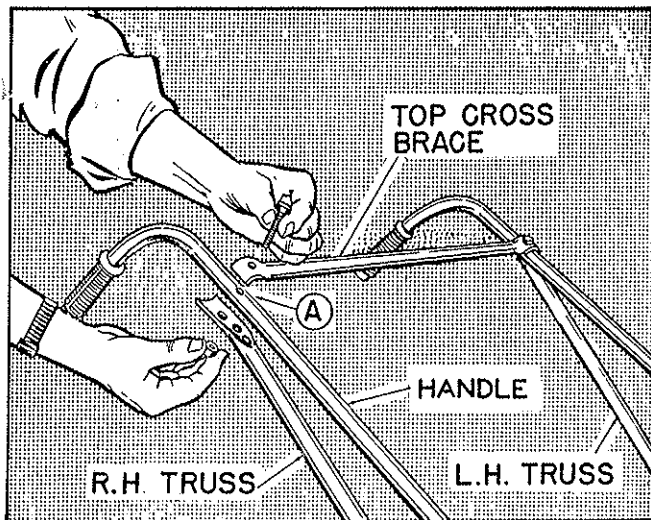

Figure 1
4. Note that there are two sets of holes in the handle truss. Attach top cross brace as shown in Fig. 1 to the handle. Place the bolt Ref. No. 3, Fig. 5 through the top hole in handle truss for maximum handle height. (If lower position is more desirable use the second hole from the end of truss. Assemble both sets of handle and truss in the same hole location on each side. **DO NOT TIGHTEN BOLTS.**
7. Now tighten all bolts and nuts on the handle assembly per Figs. 1, 2 and 5. Do not tighten bolts and nuts to the extent of collapsing the tubes.